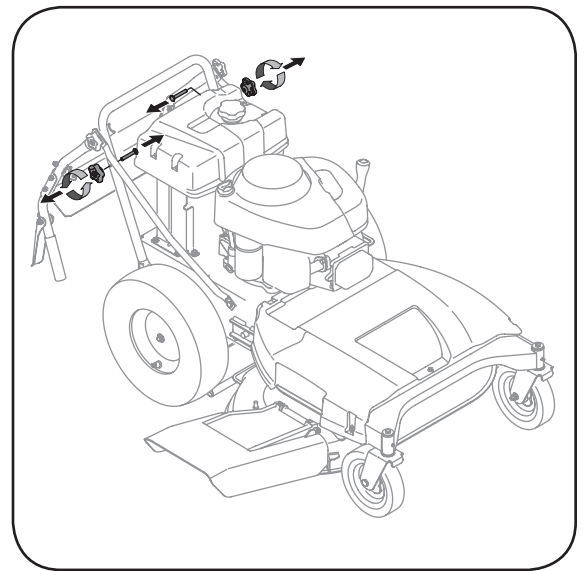

Figure 3-1: Remove lower star knobs and carriage screws.
1. Remove lower star knobs and carriage screws from lower handle, Figure 3-1.